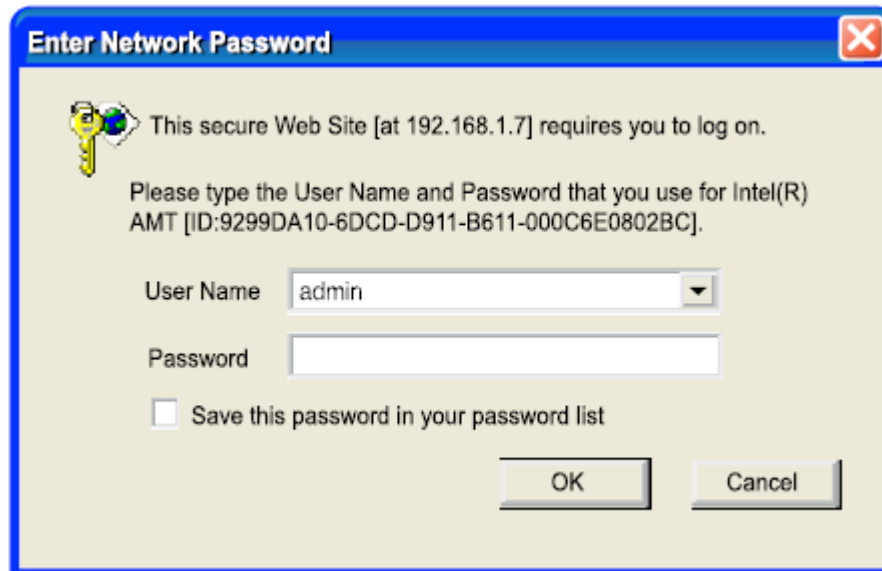

Figure 8-12: Intel® AMT Web Login Dialog
Step 5: A login window prompts (**Figure 8-12**).
- Step 6:** Enter **admin** as the user name (**Figure 8-12**).